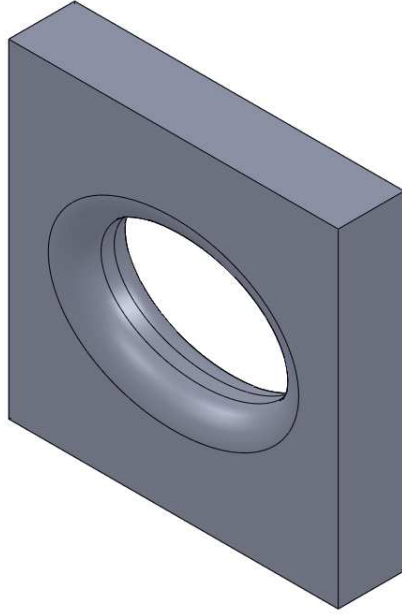
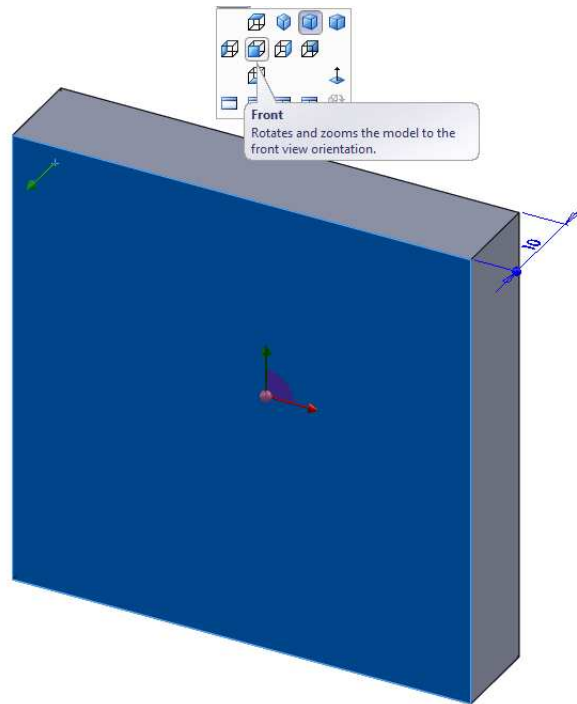

Figure 1: Einzel lens electrode with elliptical aperture.
Figure 6: Pick the front face of the plate to make a sketch of the aperture.
**MetaMesh** (the mesh generator for our three-dimensional programs), supports the direct input of complex objects from **SolidWorks** and other CAD programs. This tutorial illustrates the effective use of **SolidWorks** objects in **MetaMesh** assemblies. It gives a step-by-step description of the procedure for people who may not use **SolidWorks** every day. The program has almost infinite capabilities – I will review a simple part that might appear in an electron optics system. My motivation was a recent consulting project, simulation of a three-dimensional electron beam transformation by an einzel lens. For a beam that propagates in  $z$ , the electrostatic lens achieves different focal properties in  $x$  and  $y$  through the use of an elliptical aperture in the central electrode (Fig. 1).
The next step is to add the elliptical hole. Use the mouse to choose the front face of the plate (Fig. 6). It will be highlighted in blue. View the solid from the front face and click on the sketch tab. Pick the *Ellipse* tool and again associate the center point with the coordinate origin in the  $x$ - $y$  Move the mouse until the origin is highlighted and click the left button. Then move the mouse and click the left button to set any width in  $x$  and then set a width in  $y$ . We can set the exact dimensions in the information box on the left. Both the  $x$  and  $y$  angles should be  $0.0^\circ$ . Fill in the dimensions  $R_x = 15.0$  mm and  $R_y = 10.0$  mm and then click the green check mark. Finally, we extend the elliptical hole through the plate. Exit the sketch mode, choose the sketch with the mouse and click on the *Extruded cut* tool. Use the option *Through all*. The final operation is to add fillets to the edges of the aperture. Under *View orientation*, pick *Isometric*. Both edges of the aperture should be visible. Use the mouse to pick the front edge and then click the *Fillet* tool. In the information box, set the fillet radius to 4.0 mm. Pick the rear edge and add another 4.0 mm fillet. Figure 1 shows the finished part.